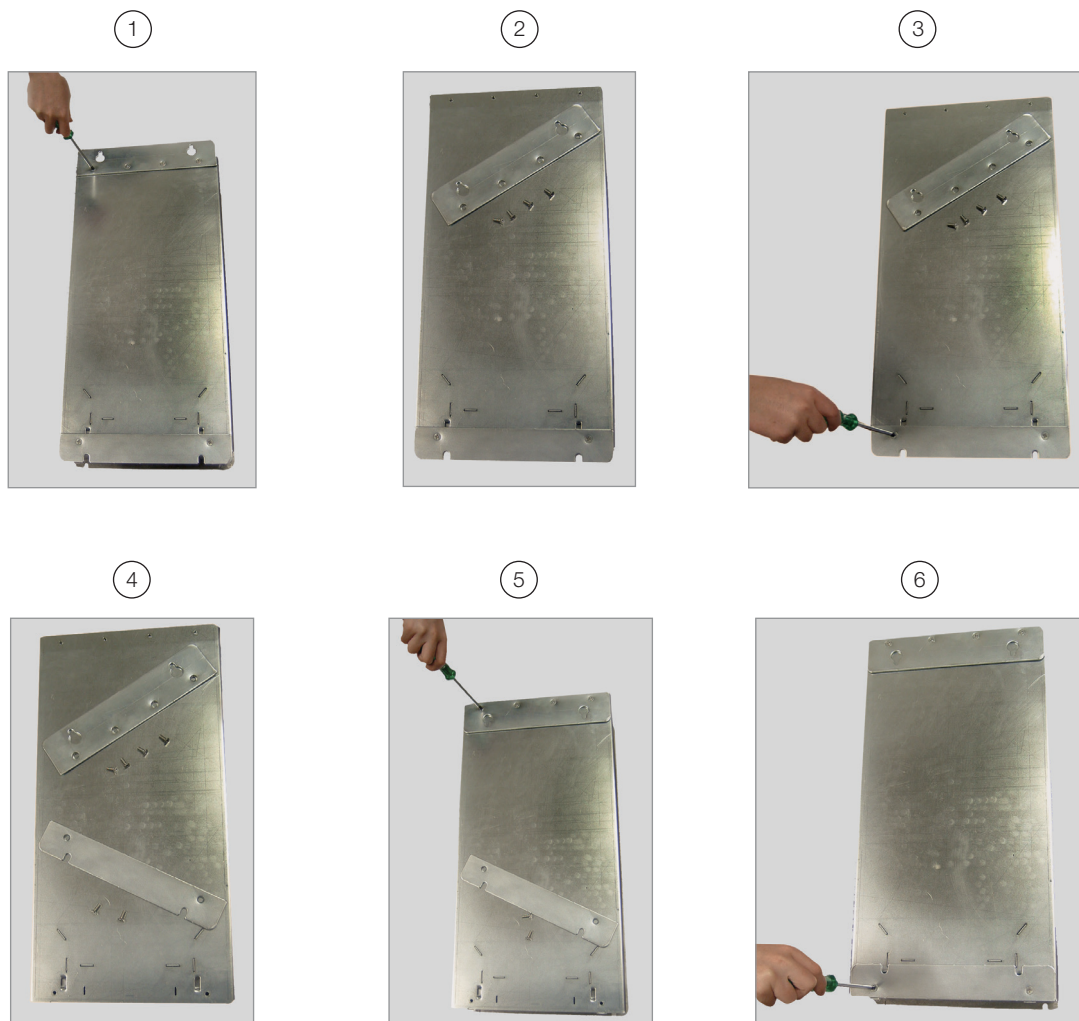
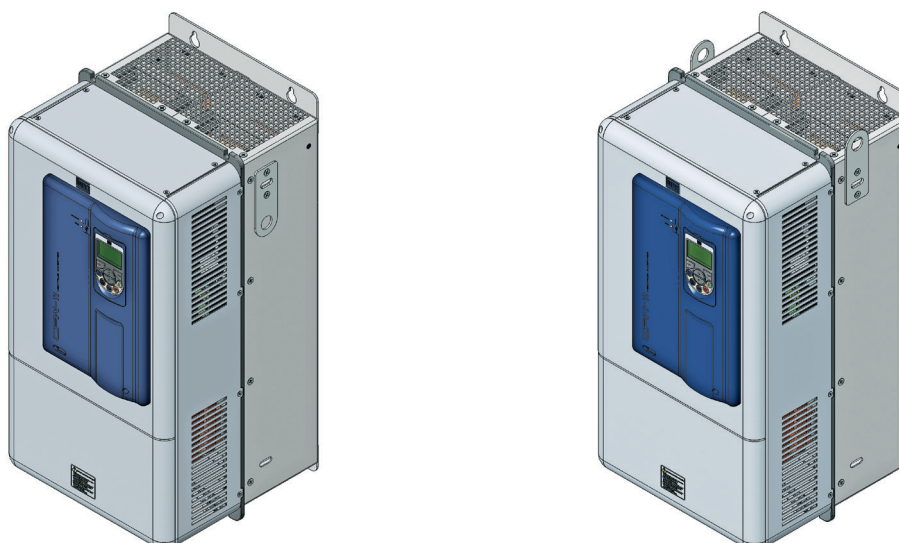

Figure 3.5: Repositioning the mounting supports - frame size E
Figure 3.6: Installation of the converter hoisting eyes frame size E
- The converter securing supports (position H of Figure 2.2 on page 2-5) and the hoisting eyes (position I of Figure 2.2 on page 2-5) must be removed and repositioned according to the Figure 3.5 on page 3-8 and Figure 3.6 on page 3-8.
Two hoisting eyes for the converter lifting, which are mounted at the converter sides (rear part), are supplied. By inverting their position, as shown in Figure 3.6 on page 3-8, two points for hoisting the converter, which are very useful during the mechanical installation of the converter, are obtained.